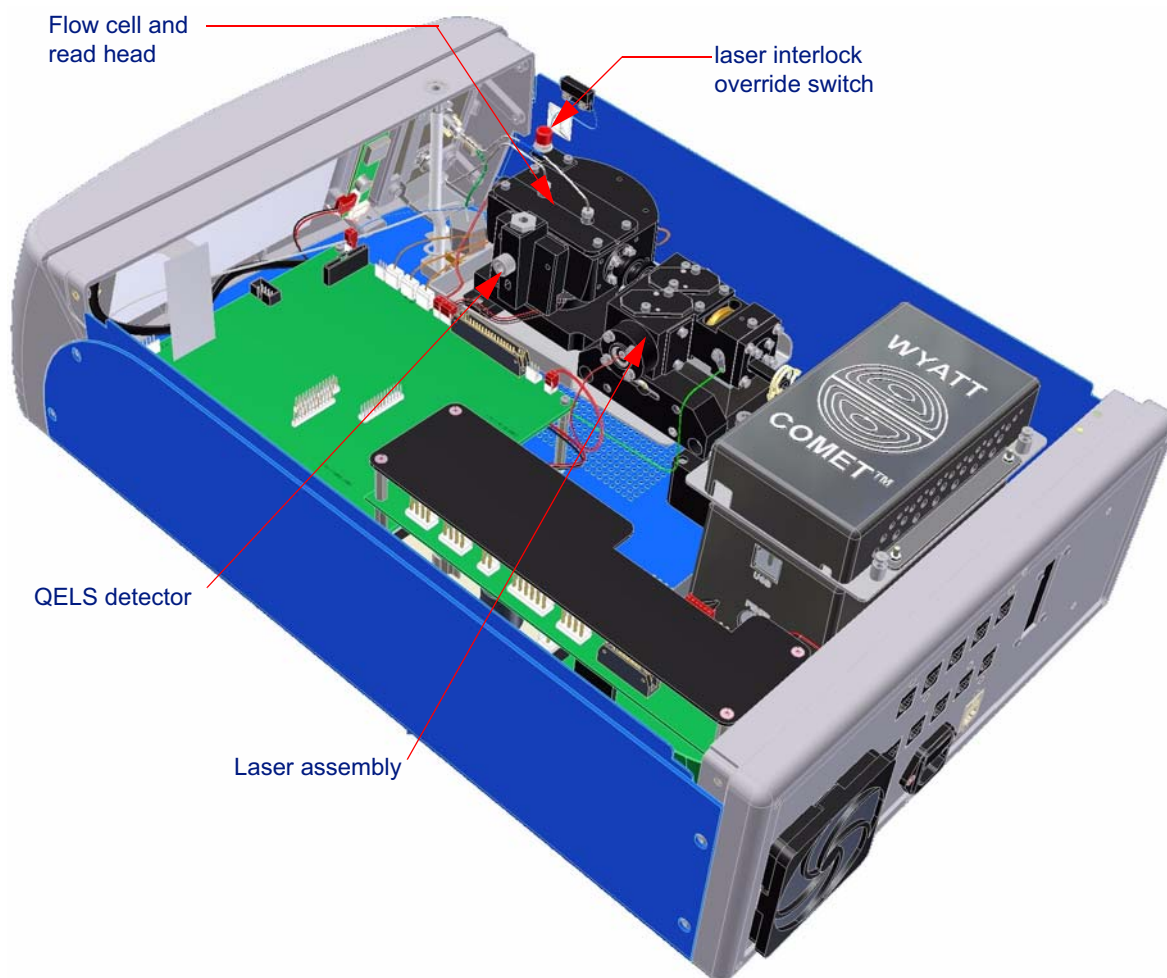

Figure 3-5: The miniDAWN TREOS uncovered
4. Slide the cover up to remove it. You can now see the components, as shown in Figure 3-5.
Under normal operating conditions the laser beam is entirely contained within the read head. A laser interlock ensures that when the instrument top cover or batch vial cover is removed, the laser is deactivated. Pressing the laser interlock over-ride button, as shown in Figure 3-5, temporarily reactivates the laser.